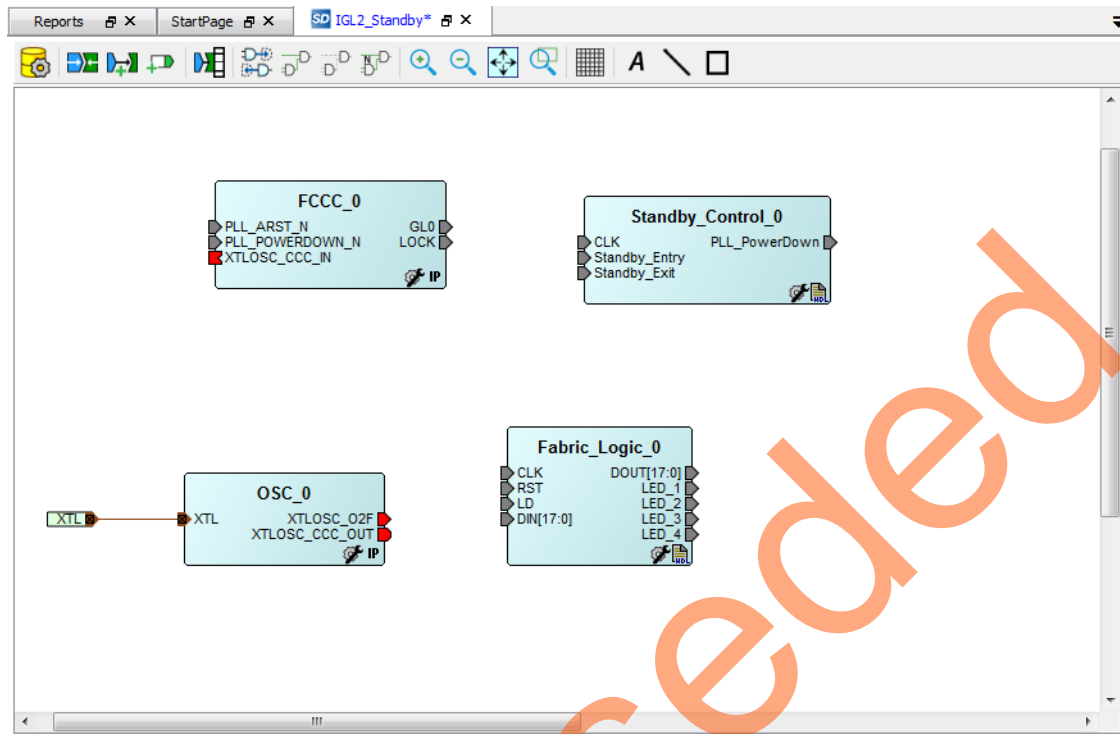

Figure 13 • SmartDesign Canvas after Adding Components
22. After adding the components, the SmartDesign resembles Figure 13. Drag the components to improve the appearance of the canvas.